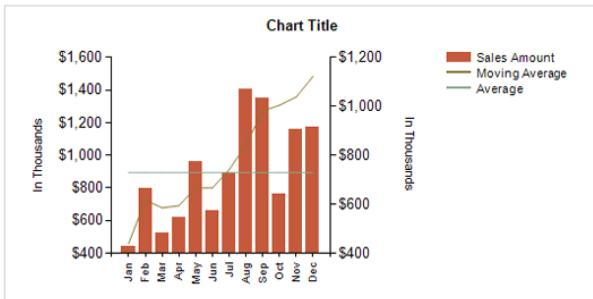

Figure 6-15
4. After your formatting is complete, save and preview the chart, which should appear as shown in Figure 6-15.